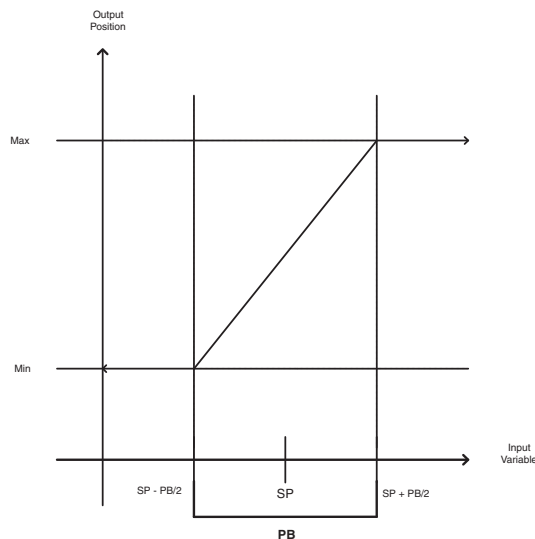
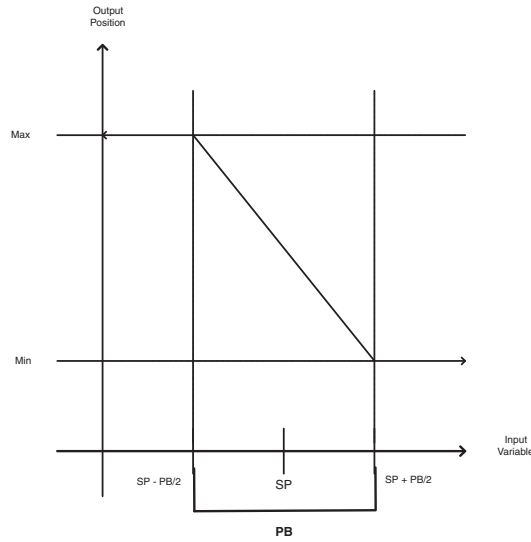

Figure 3-21: Proportional Band for Normal Acting Control ($SG = 0$)
Figure 3-22: Proportional Band for Reverse Acting Control ($SG = 1$)
To determine **PB**, first decide how closely the SBC-VAV must control the output to the setpoint. For instance, if the setpoint is 72°F, then an acceptable control range might be within two degrees of the setpoint. This control range can be expressed as a band centered on the setpoint: from 70° to 74°, or 4 degrees—the *proportional band (PB)*. Refer to Figure 3-21 and Figure 3-22.